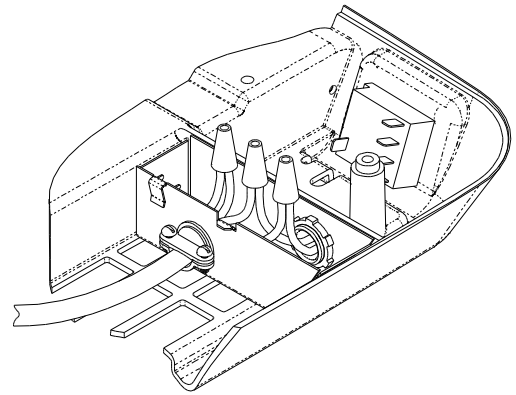

FIGURE 13
- F. Insert the supply wiring through the cable clamp and into the field wiring box so that 4 - 6" of supply conductor is inside the box. Secure the cable clamp over the supply wire sheath so that no movement is possible (See Figure 13).
- G. Connect the supply power conductors to the black and white pigtail wires and the supply ground wire to the green pigtail wire found in the field wiring box using the 3 provided wire nuts. **IMPORTANT -** Connect the black supply to the black pigtail and the white supply to the white pigtail. Using a U.L. approved electrical tape, secure the wire nuts to wires in a workmanlike manner (See Figure 13).